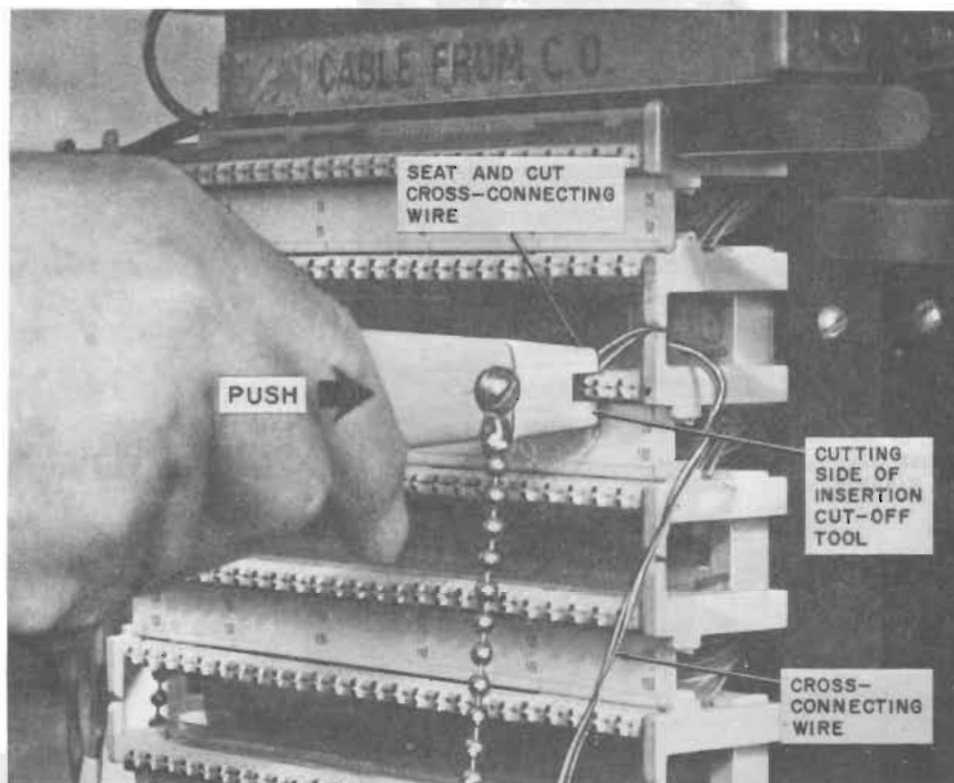

Fig. 4—Terminating Cross-Connecting Wire on Feeder Field
3.01 Remove and discard old waterproof cap, pull cross-connecting wire from spool, then insert the cross-connecting wire into assigned feeder cable termination. Seat and cut cross-connecting wire with insertion cut-off tool (Fig. 4).